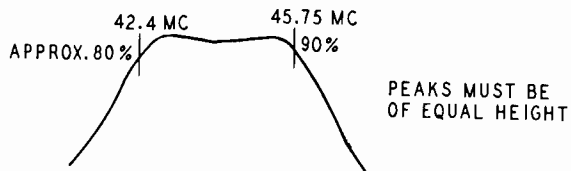

Fig. 4—2nd Pix I-F Response
1. Connect sweep output to 2nd I-F grid (pin #1-V6), oscilloscope to diode load resistor (R-213). Set output of sweeper so that some output is indicated on oscilloscope. Adjust 2nd PIF transformer (T-202) primary (bottom) and secondary (top) simultaneously for maximum output and symmetry. Readjust sweeper output for 4.0V P-P on oscilloscope. Touch-up to give the waveform shown in figure 4.